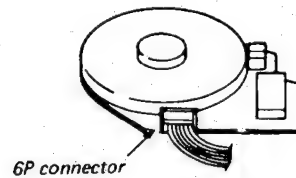
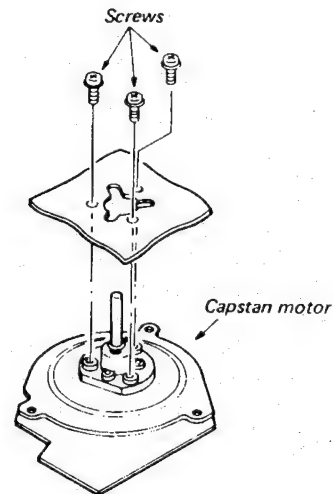

Fig. 1-3-41 Capstan motor replacement (1)
Fig. 1-3-42 Capstan motor replacement (2)
1. Remove the 6P connector from the capstan motor. (Fig. 1-3-41).
2. Remove the No. 9 guide lever assembly. (Refer to 1-3-3 (7))
3. Remove three screws and then the capstan motor. (Fig. 1-3-42)